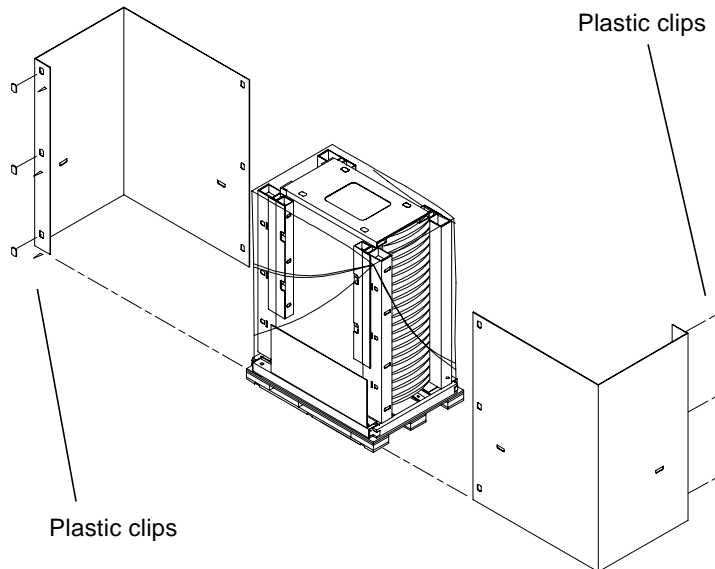

FIGURE 3-2 Unpacking the Sun Fire Cabinet—Step 2
2. Remove the plastic clips that keep the two main sections of the shipping carton together (FIGURE 3-2).